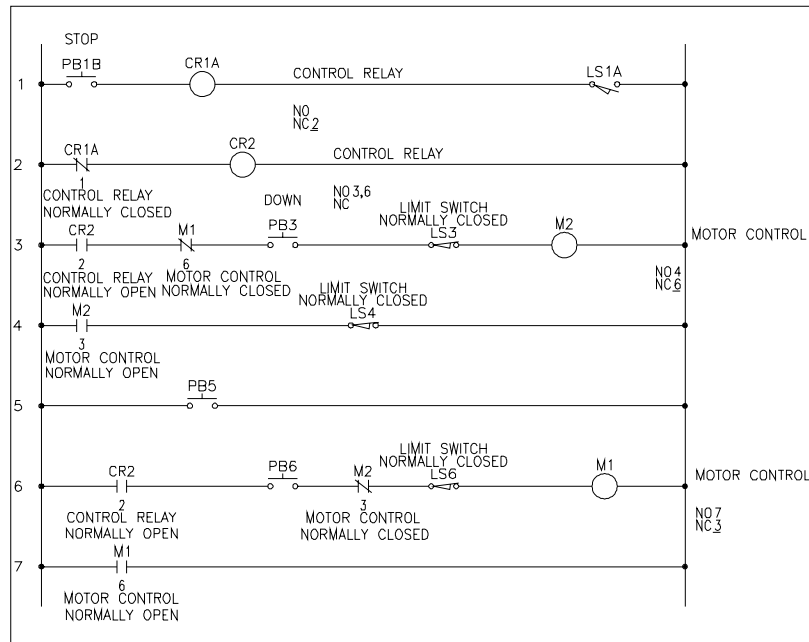

Figure 6-41 The copied components
12. Next, select limit switch LS3 from 3rd rung and copy it at **15,15**. Again, select LS3 and copy it at **16,13**. You will notice that the limit switch is inserted in rung 4 and rung 6. Keep the values in the **Description** area intact. Figure 6-41 shows the copied components.